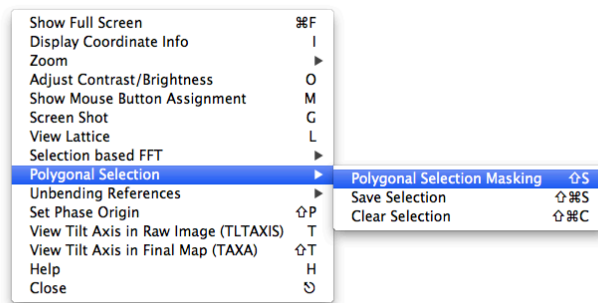

Figure 37: Activate the Polygonal Mode
2. In order to be able to mask the image you have to activate the *Polygon Selection Mode* by right-clicking in the image and selecting "Polygon Selection > Polygon Selection Masking" as shown in Figure 37.